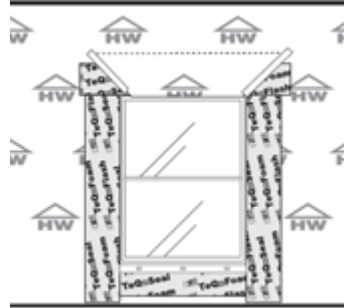

Figure 10
- 5.3.1 Remove tape that holds flap created in Step 1 and pull flap down over head flashing (Figure 10).